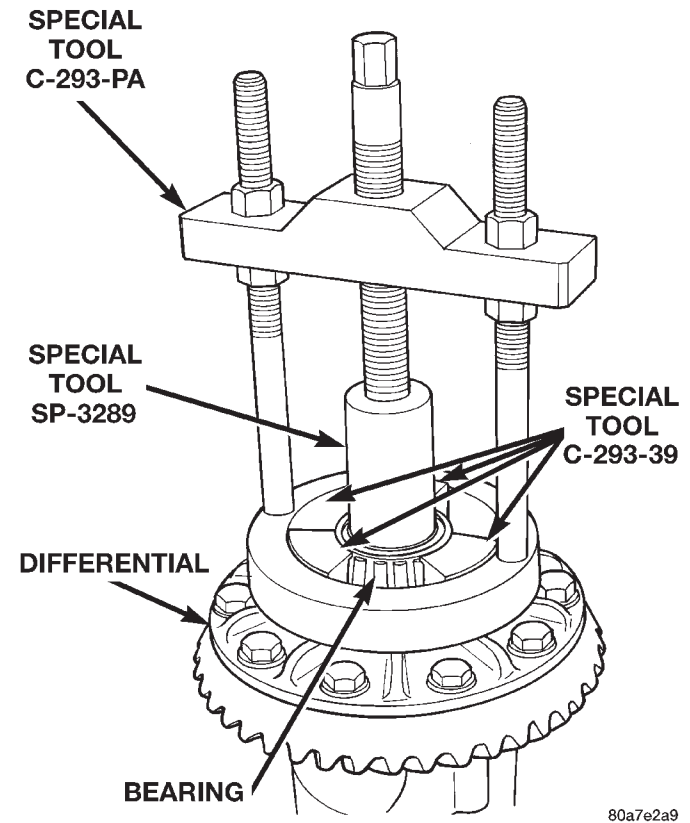

Fig. 34 Differential Bearing Removal
- (1) Remove differential from axle housing.
- (2) Remove the bearings from the differential case with Puller/Press C-293-PA, C-293-39 Blocks, and Plug SP-3289 (Fig. 34).